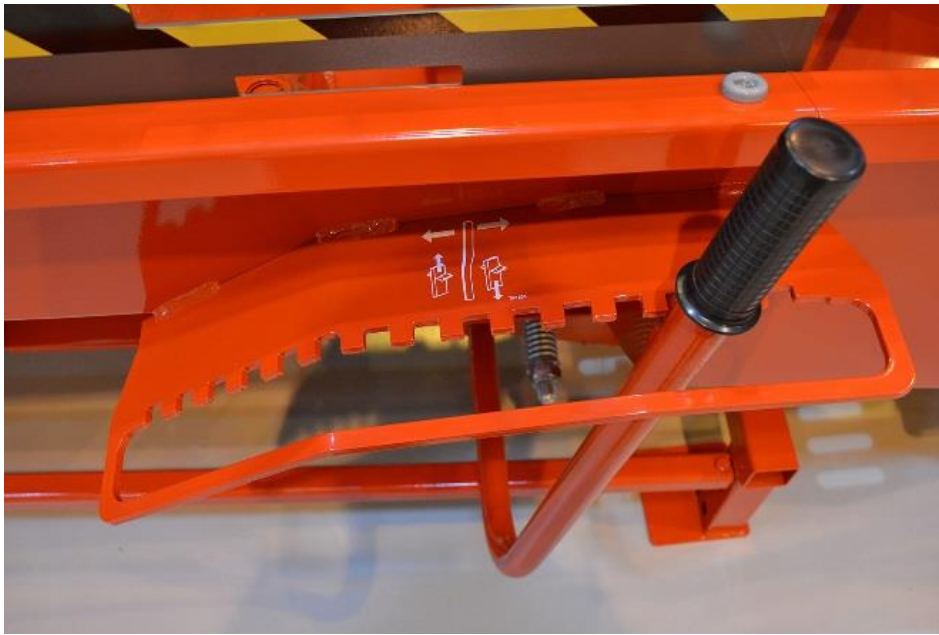

Figure 22.
1. Remove any firewood under the splitting knife and lower it to the lowest position using lever D (Figure 15), as shown in Figure 22.